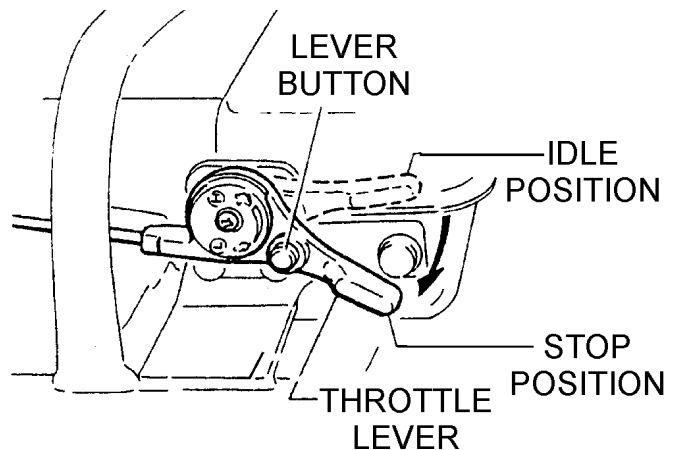

Figure 10. Throttle Lever (Stop Position)
3. After the engine **cools**, move throttle lever quickly from **IDLE** to **STOP** (Figure 10) while pressing the throttle lever button.